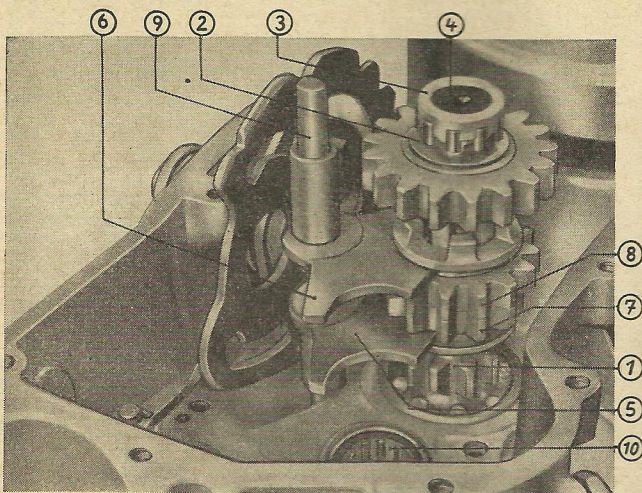
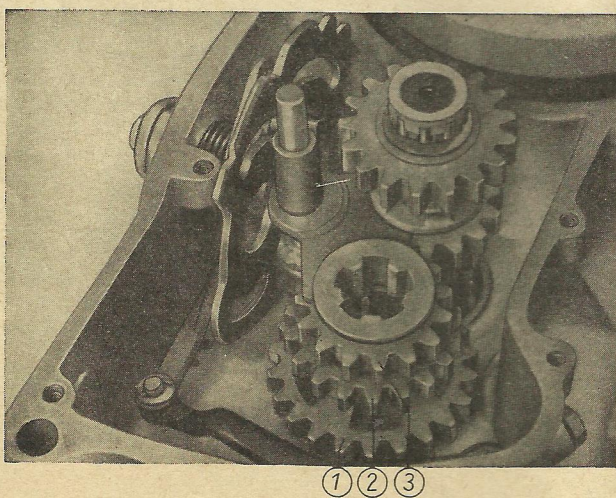

Fig. 10: Gearbox
Fig. 11: Gearbox
3. Remove countershaft (fig. 10/1) with gears and thrust collar for the right-hand roller bearing. Take roller bearing out of race in the right-hand half of the crankcase.
1. Install countershaft (fig. 10/1) with gears, fit thrust collar (fig. 10/2) and roller bearing (fig. 10/3) with rubber seal (fig. 10/4) for clutch thrust pin. The open side of the roller bearing cage must face the interior of the gearbox.
2. Install left-hand gear shift yoke (fig. 10/5) and right-hand gear shift yoke (fig. 10/6) in such a way that the left-hand yoke engages with the guide spline of the second-speed spur gear (fig. 10/7) and the right-hand yoke engages with the guide spline of the third-speed spur gear (fig. 10/8). Put in gear shift rail (fig. 10/9) and fit it into the guide hole in the crankcase.
3. Install roller bearing (fig. 10/10) of the mainshaft into the left-hand half of the crankcase (the open side of the cage facing the interior of the gearbox), fit in thrust collar and first-speed spur gear (fig. 11/1) with pawl slots facing the inner side of the gearbox. Then insert spur gear of the second speed (fig. 11/2) and that of the third speed (fig. 11/3) in such a manner that left-hand and right-hand gear shift yokes engage with the guiding splines of the gears and each pair of gears engages with each other.